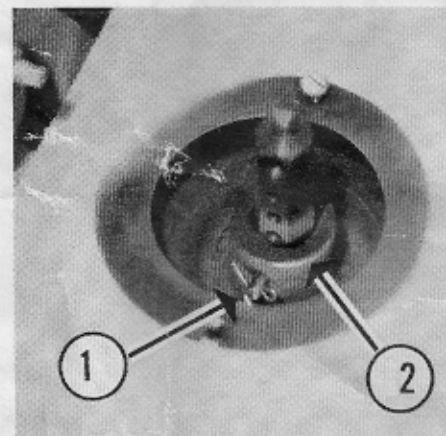

Figure 20
2. Remove the cotter key from the end of the Height Adjustment Pin, 1 in Figure 20. On the center and right blades (center and right as you stand at the Handles) the cotter key and Pin are accessible upon removal of the Spindle Covers. However, to gain access to the left Blade cotter key and Pin, reach under the left Belt Guard. An alternate method is to remove the entire left Belt Guard (which includes the
4. There are six holes in the Shaft (exclusive of the large hole in which the screwdriver was placed) which regulate the cutting height. The top-most hole sets the cutting height at $1\frac{1}{2}$ inches from the ground, the next at two inches from the ground, and so on in $\frac{1}{2}$ -inch increments to a maximum cutting height of four inches. Line up the hole corresponding to the desired cutting height with the holes in the Shaft Housing, 2 in Figure 20, and insert the Height Adjustment Pin into these. Then insert the cotter key in the end of the Pin.